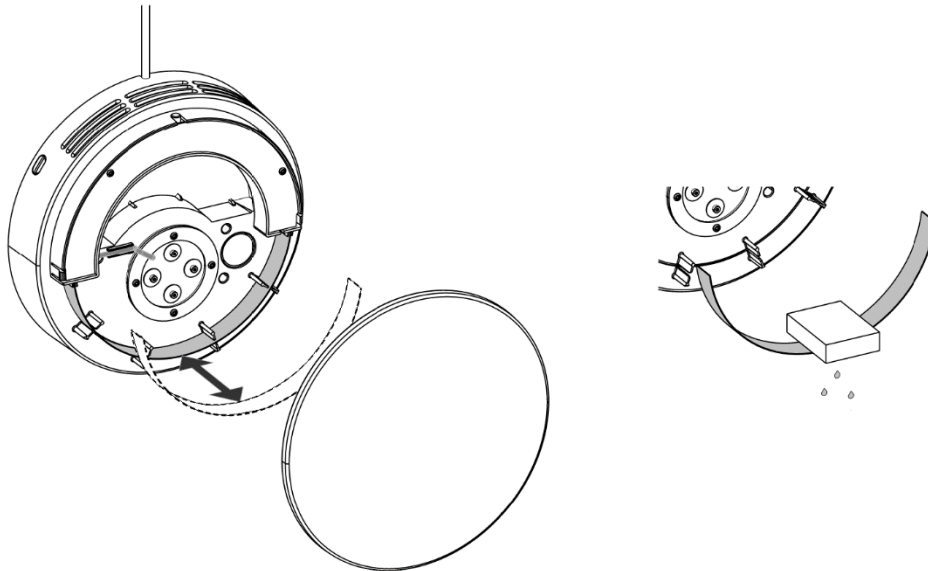

Figure 18 - Clean the internal coarse filter
6. Detach the internal cover. Remove the coarse filter and carefully clean it with a damp sponge or rag, see Figure 18 below.